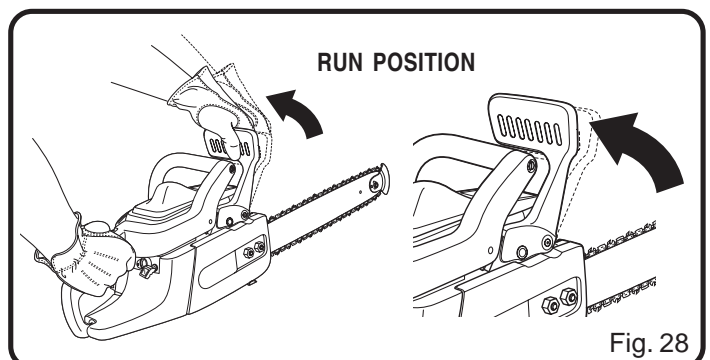

Fig. 28
3. Reset the chain brake back into the RUN position by grasping the right-hand side (from operator's position) of the chain brake lever/hand guard and pull towards the front handle until you hear a click. See Figure 28.